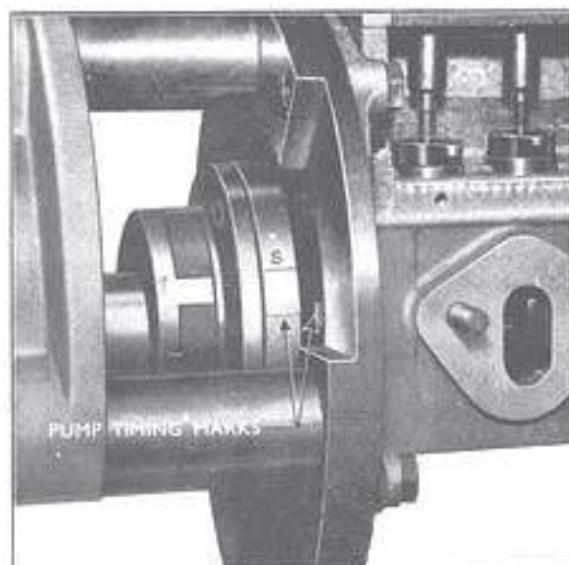

Fig. 21
8. Check that when No. 1 element is at the spill cut-off position the timing marks on the drive gear adaptor and the timing pointer coincide (see Fig. 21). If not, obliterate the line on the adaptor and re-mark as necessary. The other line on the adaptor stamped "S" should also be obliterated and re-marked the appropriate distance from the line indicating the spill cut-off position.